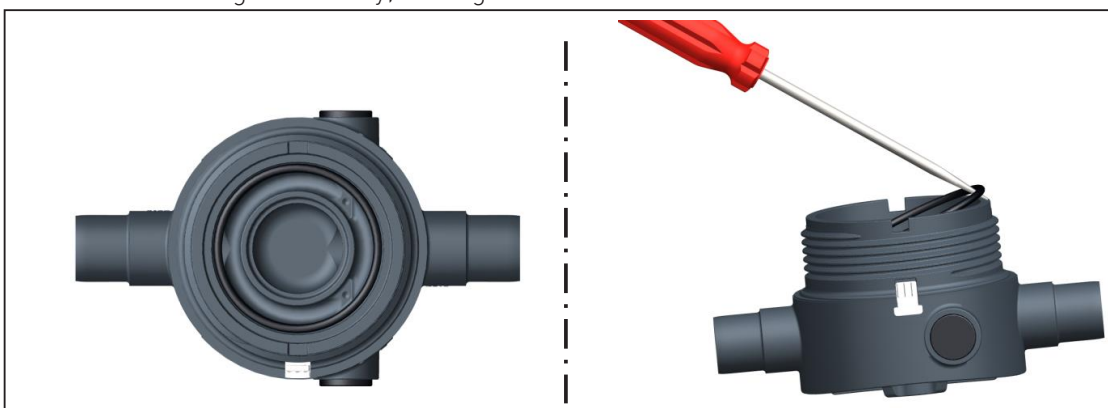

Fig. 10
- ▶ Remove 2 O-rings from body, see Fig. 10